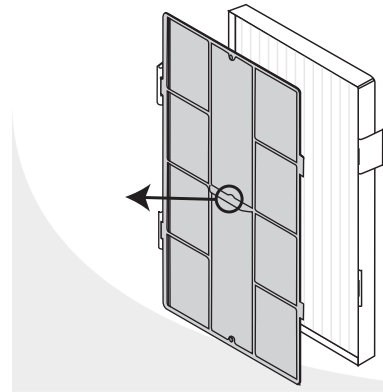

FIG. 4
4. **Pull** on the center tab to remove the Pre-filter from the HEPA filter (Fig. 4).